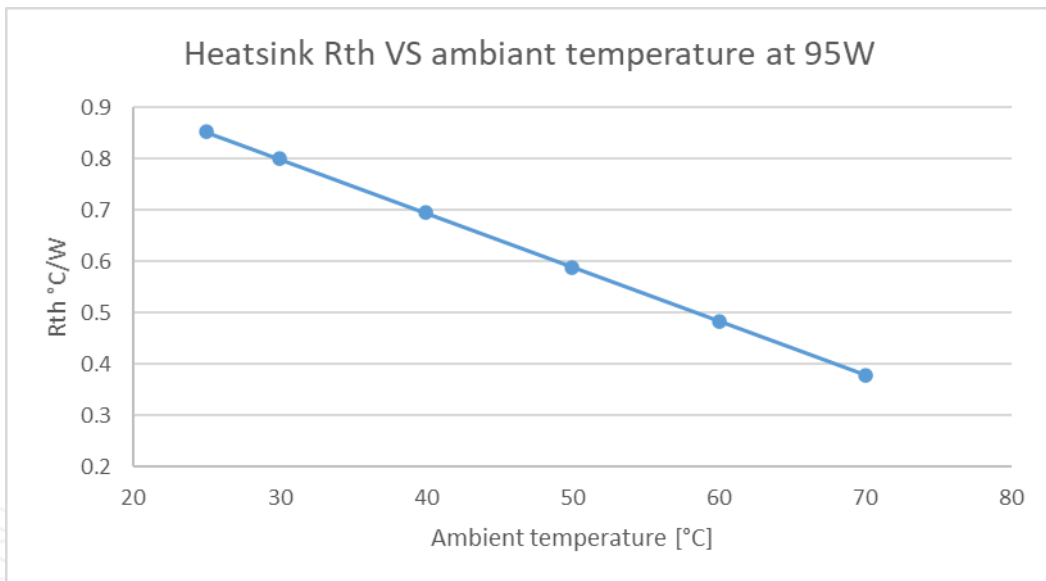

Figure 11: Maximum thermal resistance depending on the ambient temperature, at 95W.
- At 95W, depending on the ambient temperature, on the Figure 11.